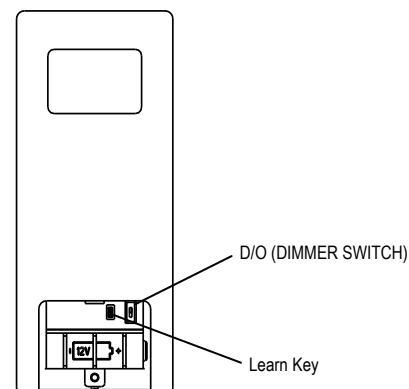

FIG 3
2. Use a small screwdriver or ballpoint pen to press and hold the "LEARN" key, located in the battery compartment (see FIG. 3.), for 3 seconds. Fan will turn on at high speed and light (if installed) blinks 3 times. This confirms that the SMART SYNC setting is active. You now have 30 seconds to press the LEARN key. Tap the FAN OFF button to turn off the fan.
Slide the D/O switch, located in the battery compartment (See FIG. 3), to match the bulb type in your fan. "D" is for incandescent bulbs and "O" indicates compact fluorescent bulbs (CFL). Use a small screwdriver or ballpoint pen to slide firmly left or right.